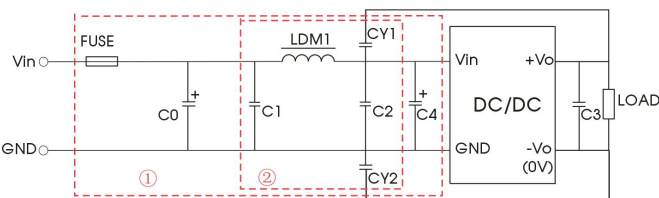

Fig. 3
Note: Part ① in the Fig. 3 is used for EMC test and part ② for emissions filtering; Selecting based on needs.